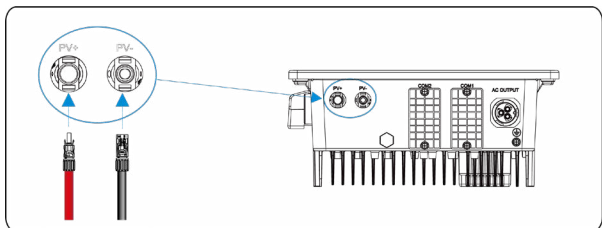

Figure 5.15 Connecting to the inverter
Step 6 Insert the positive and negative connectors into their corresponding terminals of the inverter until a “click” sound is heard, as shown in **Figure 5.15**.